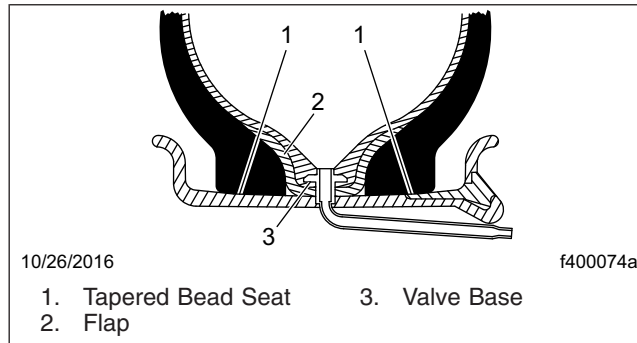

Fig. 13, Position of Beads, Flap, and Tube at 4 to 5 psi (28 to 35 kPa)
- The position of the beads, flap, and tube with 4 to 5 psi (28 to 35 kPa) pressure is shown in **Fig. 13**. The tube is fully rounded-out within the tire, but there isn't enough pressure to move the beads on wide-base rims.